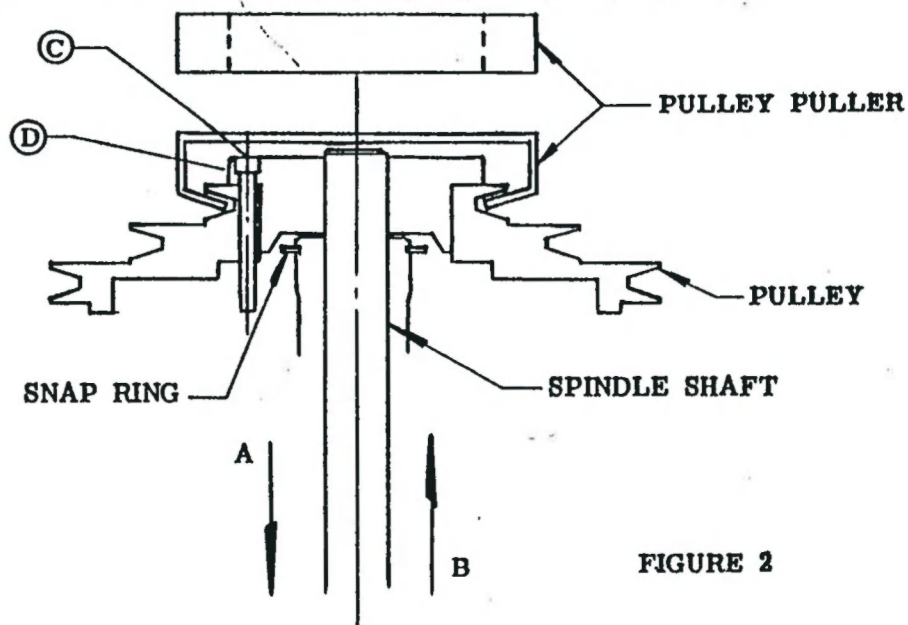

FIGURE 2
- A. TO REMOVE SPINDLE PULLEY (See Figure 2) (Model 645).